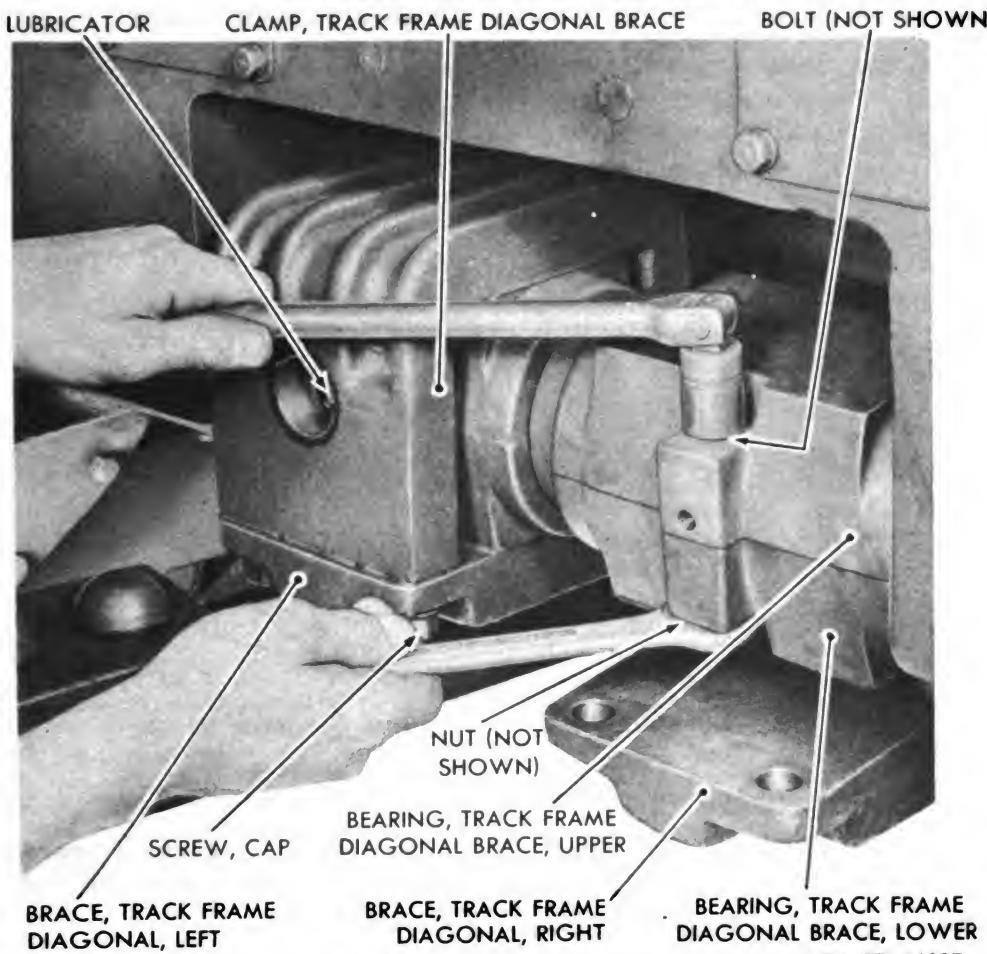

Figure 175 – Track Frame Diagonal Brace Bearings Removal
- (2) REMOVE UPPER AND LOWER TRACK FRAME DIAGONAL BRACE BEARINGS (figs. 175 and 176).
(1) INSTALL RIGHT UPPER AND LOWER TRACK FRAME DIAGONAL BRACE BEARINGS (figs. 175 and 176). NOTE: If diagonal brace only has been removed, this step should be eliminated.
(2) INSTALL TRACK FRAME DIAGONAL BRACE CLAMP (fig. 175).
(3) INSTALL LUBRICATOR (fig. 175).